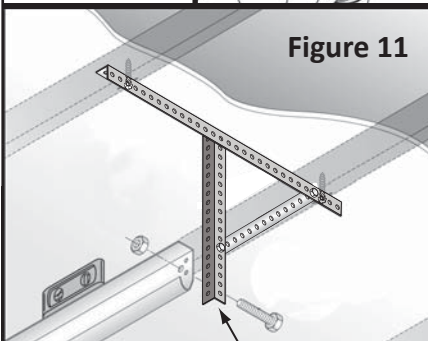

Figure 11
Step 7: (Standard Lift) Securely fasten the vertical Back Hanger Angle to the Horizontal Track using (1) 3/8"x1-1/2" Machine Bolt and (1) 3/8"-16 Hex Nut (Figure 11).